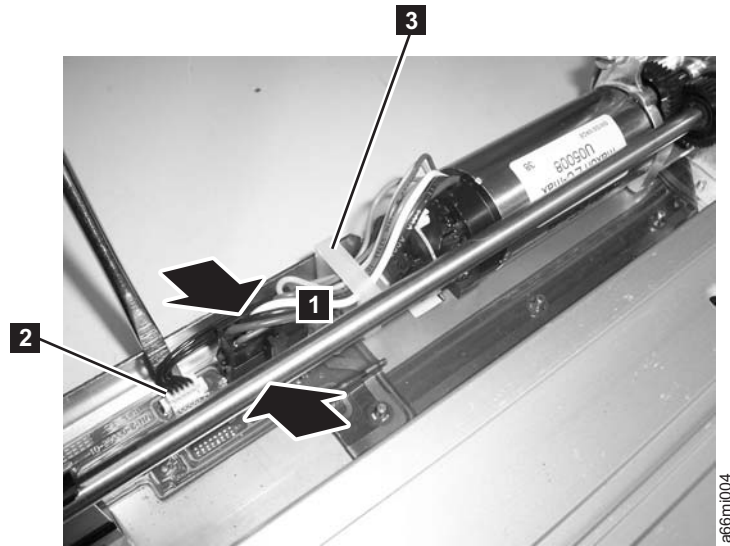

Figure 8-65. Y motor connector
3. Connect the small white connector (**2** in Figure 8-65 on page 8-65).
4. Connect the large black connector. See Figure 8-65.
- a. Pinch the latch on the cable connector (**1** in Figure 8-65).